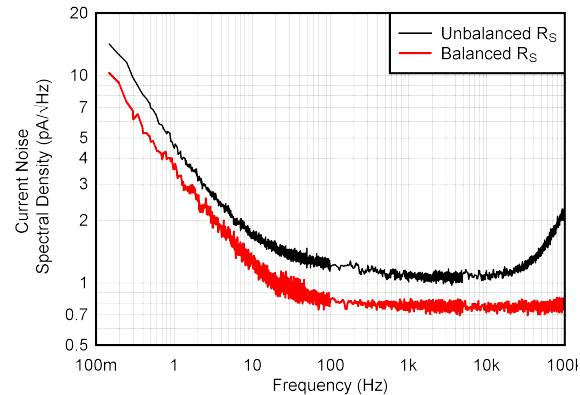

Figure 7-25. Current Noise Spectral Density vs Frequency (RTI)
- (7) This parameter is tested in a high speed automatic test environment and does not measure the thermal effects with a longer a time constant. The thermal effect depends on supply voltage, layout, heat sinking and air flow conditions.
- (8) Total RTI voltage noise is equal to:  $e_{\text{N(RTI)}} = \sqrt{[e_{\text{NI}}^2 + (e_{\text{NO}} / G)^2]}$ .
- (9) Input current noise density specified for unbalanced input impedance. Bias current cancellation improves noise performance for balanced systems; See Figure 7-25.